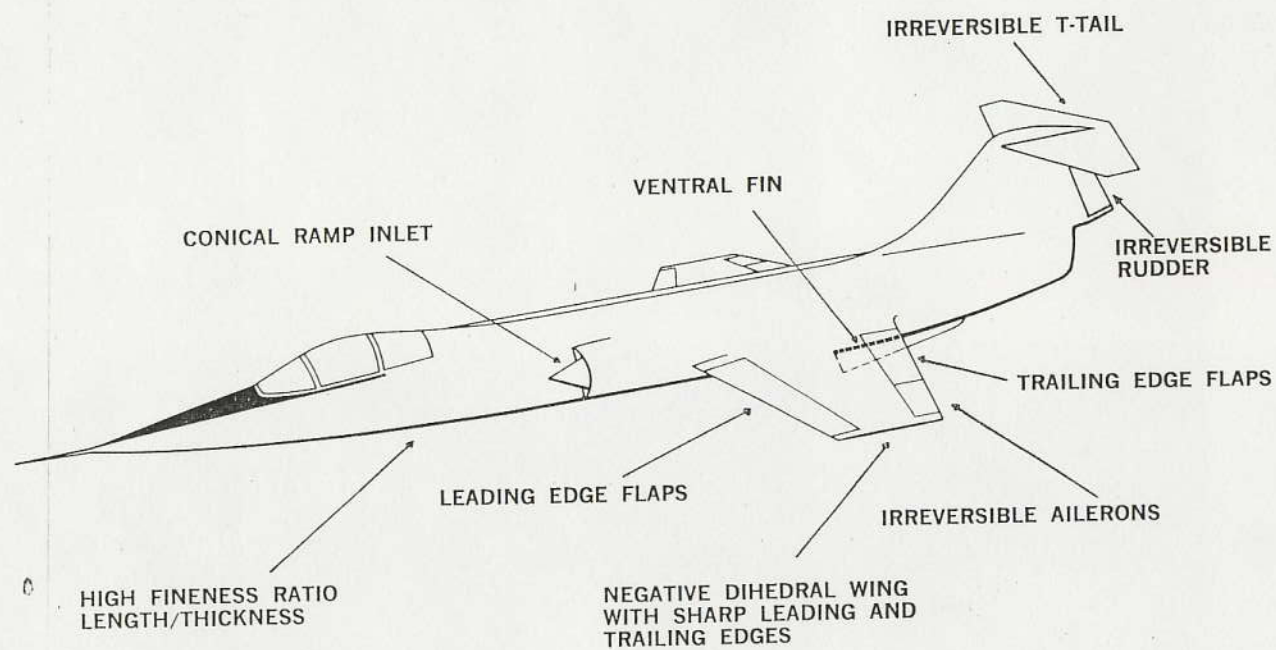

FIG. 4
The configuration of the STARFIGHTER is undoubtedly the most unique of any of the Century series. The accompanying sketch (Fig. 4) shows these features. Advantages of this configuration are (1) minimum drag, (2) high maneuverability and (3) stable weapons platform at all speeds. It's hard to delineate the purpose of each feature since they all complement one another but a quick description follows: